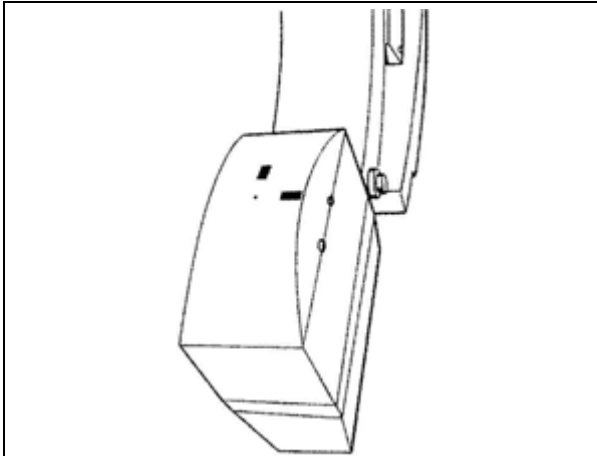

Fig. 6: Cover
- Replace the cover and secure using the cover screws (Fig. 6 / p. 12).